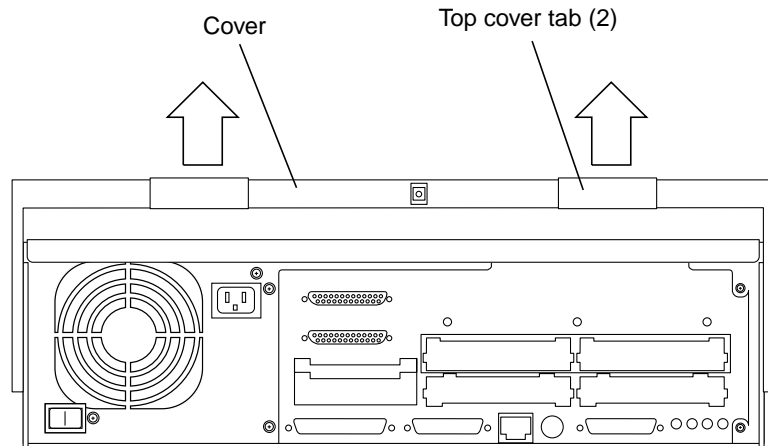

Figure 2-3 Removing the Cover
2. Pull the two top cover tabs to free the cover from the back panel (Figure 2-3).
- a. Lift the cover from the back panel (Figure 2-3).